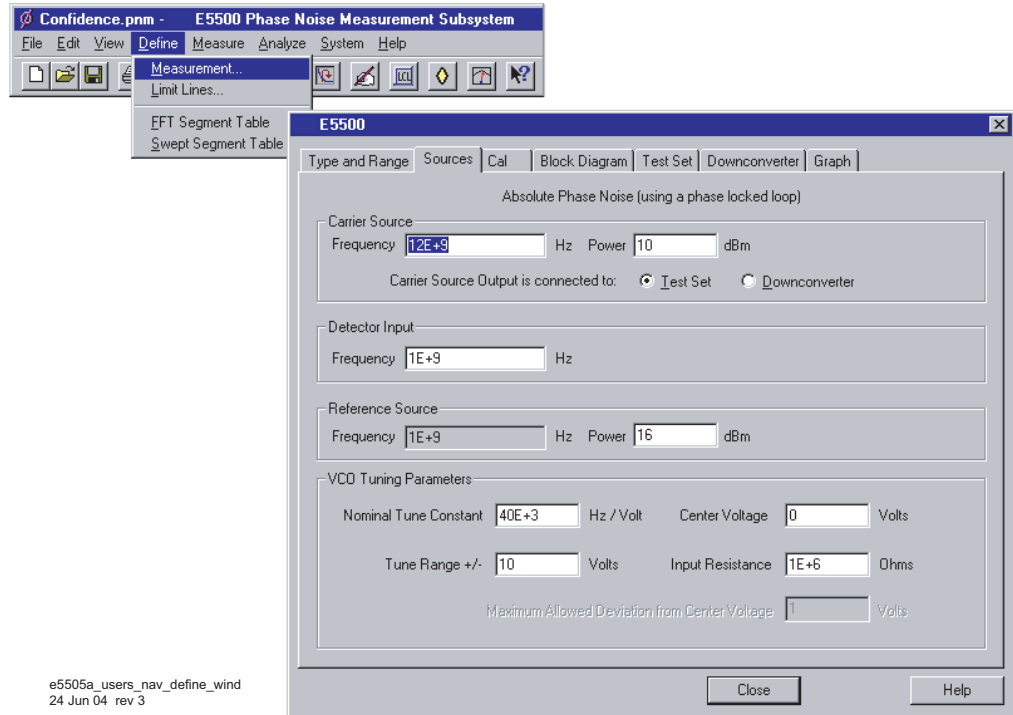

Figure 7 Navigating to the Define Measurement window
- 5 To view the parameter data in the software, navigate to the Define Measurement window. Use Figure 7 on page 40 as a navigation guide. The parameter data is entered using the tabbed windows. Select various tabs to see the type of information entered behind each tab.